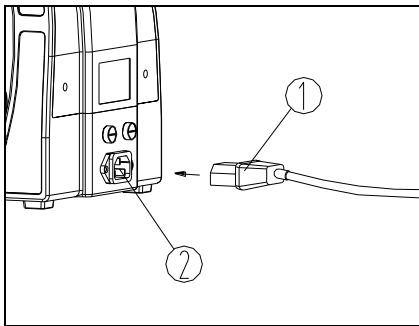

Fig. 8
2. Insert the connector① of power cord into the power socket②, and make sure it connects well (see Fig. 8).